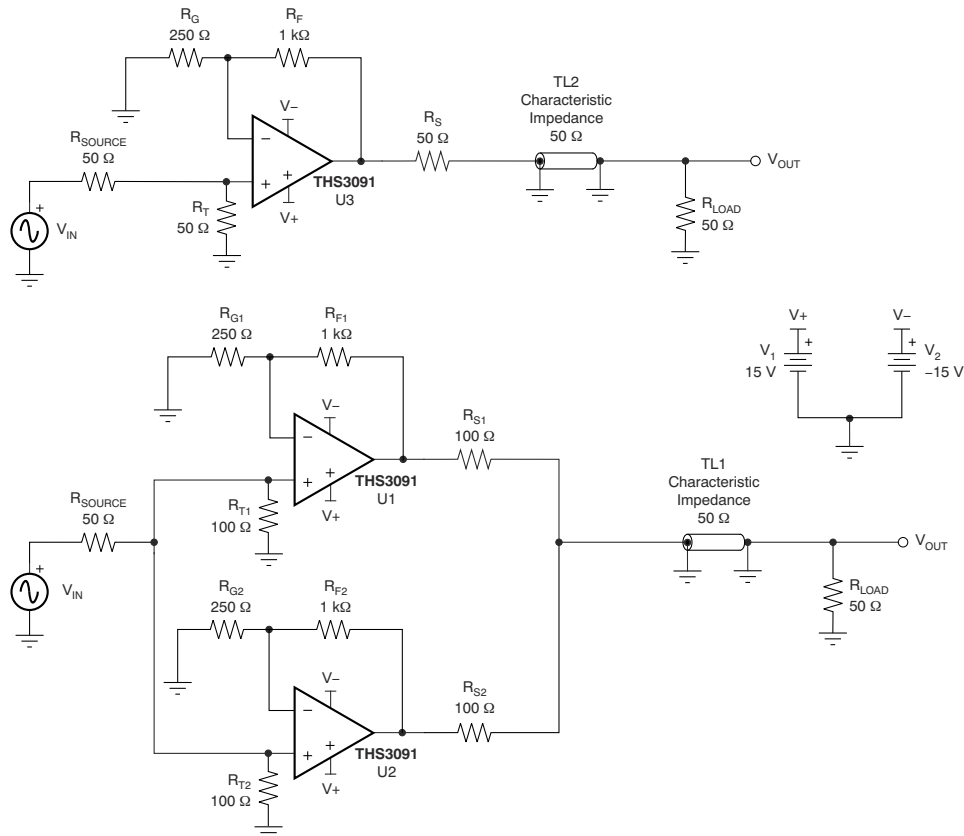
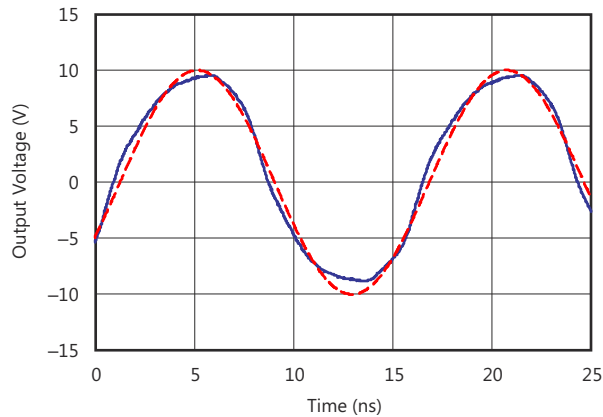
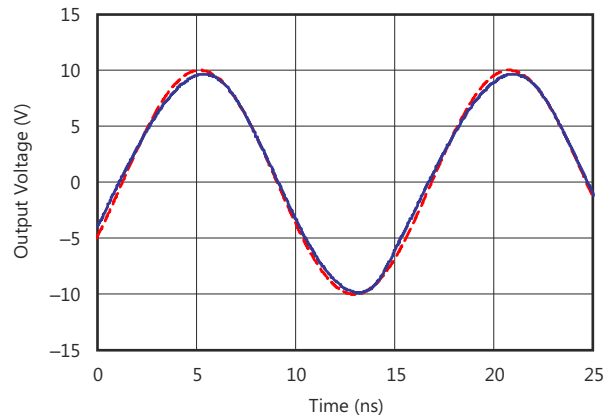

図 9-1. Reference THS3091 and THS3091 Load Sharing Test Configurations
Figure 9-4. 64-MHz Sine Wave Output (Gain = 5 V/V, Signal Amplitude Referred to Amplifier Output), Single THS3091 Circuit Configuration
Figure 9-5. 64-MHz Sine Wave Output (Gain = 5 V/V, Signal Amplitude Referred to Amplifier Output), Two THS3091 Amplifiers in Load Sharing Configuration
The fundamental concept of load sharing is to drive a load using two or more of the same operational amplifiers. Each amplifier is driven by the same source. 図 9-1 illustrates the schematic for this design. This concept effectively reduces the current load of each amplifier by $1/N$, where N is the number of amplifiers. For further details on the design and performance of this circuit, see the Reference Design for Implementation of the Load Sharing Concept for Large-Signal Applications.
As shown in Figure 9-1 for example, in a two-amplifier load sharing configuration with matching resistance driving a resistive load (RL), each series resistance is 2×RL and each amplifier drives 2×RL. A convenient indicator of whether an op amp will function well in a load sharing configuration is the characteristic performance graph of harmonic distortion versus load resistance. Figure 7-9 and Figure 7-10 show more information. Such graphs can be found in most of TI's high-speed amplifier data sheets. These graphs can be used to obtain a general sense of whether or not an amplifier will show improved distortion performance in load sharing configurations.
Figure 9-1 shows two test circuits: one for a single THS3091 amplifier driving a double-terminated (50-Ω cable), and one with two THS3091 amplifiers in a load sharing configuration. In the load sharing configuration, the two 100-Ω series output resistors act in parallel to provide 50-Ω back-matching to the 50-Ω cable.
Figure 9-4 and Figure 9-5 show the 64-MHz sine wave outputs of the two configurations from Figure 9-1. While the single THS3091 output is clearly distorted in Figure 9-4, the output of the load sharing configuration in Figure 9-5 shows only minor deviations from the ideal sine wave.